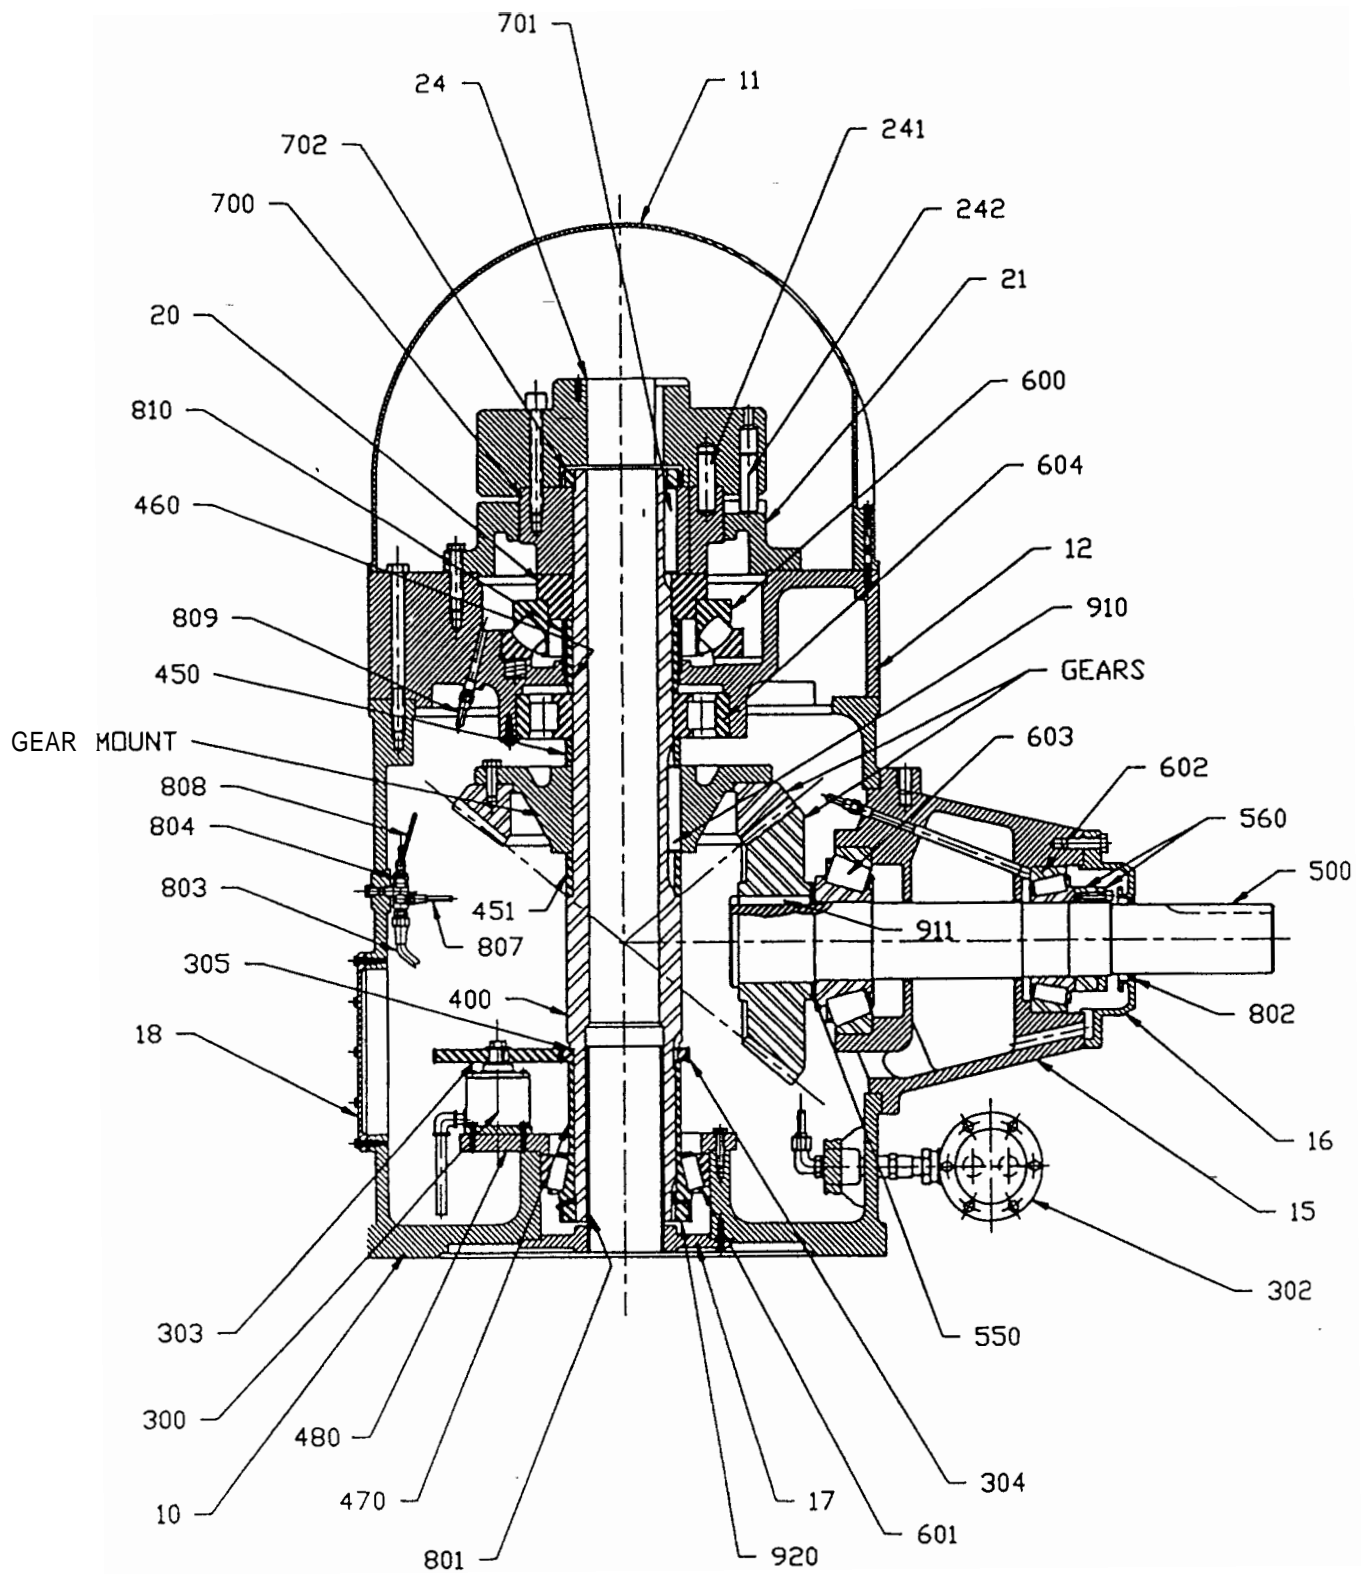

Figure 3
6.10b For S, SS, SH, and SSH Models using a spherical roller thrust bearing use the following procedure. (see Figures 3 and 5)